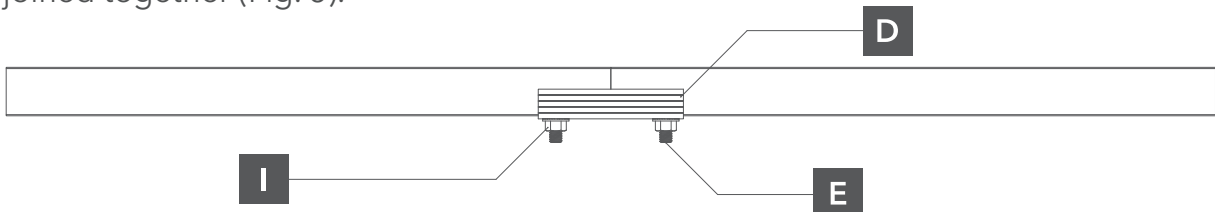

Fig. 5. connection of the mounting rails
- 4** If a system with several rows is ordered, the mounting rails may have different lengths. They must be joined together using a rail connector joined together (Fig. 5).